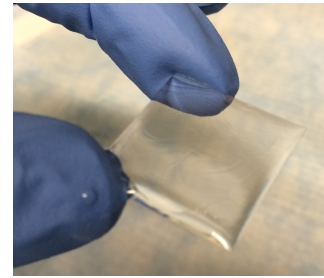

Figure 7. DPX covering tissue mounted on a PLL-coated cover glass.
13. DPX application. When the last xylene soak is completed, remove the cover glass from the xylene jar (while maintaining the known orientation of tissue-to-the-front and top-up) and firmly hold it between your thumb and index finger such that the surface with the tissue is horizontal. Immediately add 7 ± 1 drops of DPX on top of the tissue. The tissue should become transparent. (Figure 7)